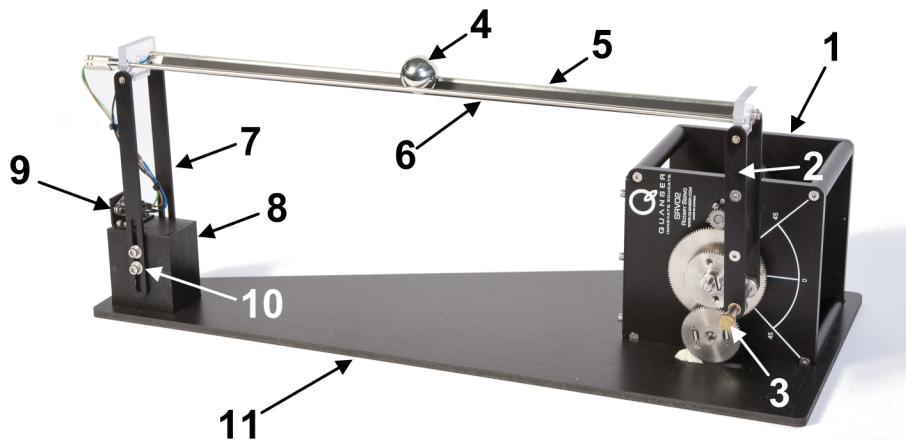
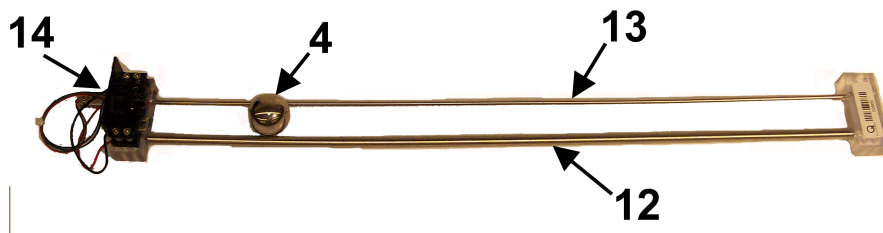
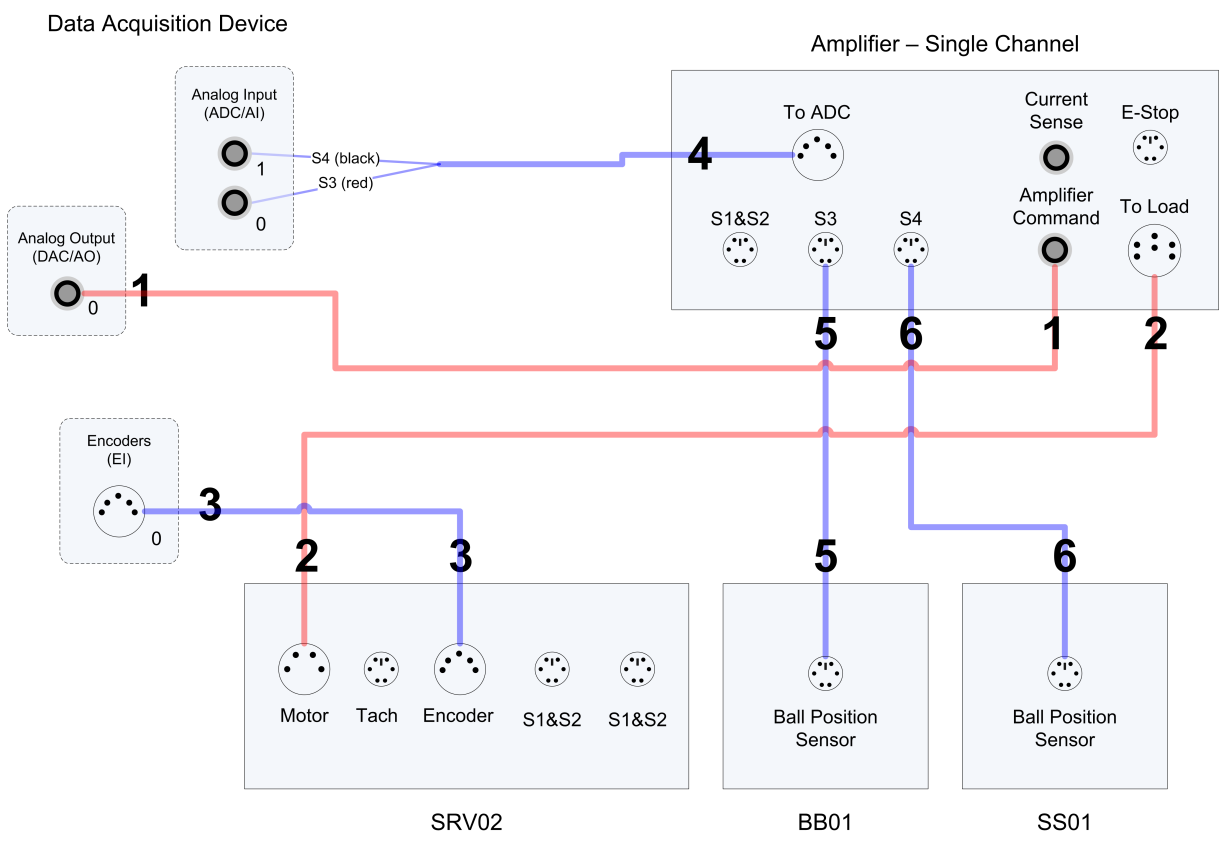

Figure 2.1: Components on Ball and Beam system
Figure 2.2: Components on Remote Sensor system
Figure 5.1: BB01 connections using generic DAQ with a single-channel amplifier
The components of the Ball and Beam module, i.e., the BB01 device, and the Remote Sensor system, i.e., SS01, are listed in Table 2.1 and labeled in Figure 2.1 and Figure 2.2.
2. Lay the calibration base, component #11 in Figure 2.1, flat on a table surface.
This section describes the typical connections used to connect the SRV02 plant to a data-acquisition board and a single-channel power amplifier. The connections are given in Table 5.2 and illustrated in Figure 5.1. The detailed wiring procedure is given below as well.
**Note:** The data acquisition (DAQ) device used in Figure 5.1 is representative for any DAQ device.
3. Connect one end of the 2xRCA to 2xRCA cable from the Analog Output Channel #0 on the terminal board to the *Amplifier Command* connector on the amplifier, i.e. use both white or both red RCA connectors. See cable #1 shown in Figure 5.1. This carries the attenuated motor voltage control signal,  $V_m/K_a$ , where  $K_a$  is the amplifier gain.
4. Connect the 4-pin-stereo-DIN to 6-pin-stereo-DIN cable from *To Load* connector on the amplifier to the *Motor* connector on the SRV02. See connection #2 shown in Figure 5.1. The cable transmits the amplified voltage that is applied to the SRV02 motor and is denoted  $V_m$ .
5. Connect the 5-pin-stereo-DIN to 5-pin-stereo-DIN cable from the *Encoder* connector on the SRV02 panel to Encoder Input # 0 on the terminal board, as depicted by connection #3 in Figure 5.1. This carries the load shaft angle measurement and is denoted by the variable  $\theta_l$ .
7. Connect the *Ball Position Sensor* connector from the BB01 to the S3 socket on the amplifier using the 6-pin-mini-DIN to 6-pin-mini-DIN cable. See connection #5 in Figure 5.1. This carries the the measured ball position from the beam potentiometer and is denoted by variable  $x$ .
8. If the SS01 remote sensor module (shown in Figure 2.2) is used, then connect *Remote Ball Position Sensor* connector from the SS01 remote sensor module to the S4 socket on the amplifier using the 6-pin-mini-DIN to 6-pin-mini-DIN cable. See connection #6 in Figure 5.1. This measures the ball position on the remote sensor and is denoted by  $x_d$ .